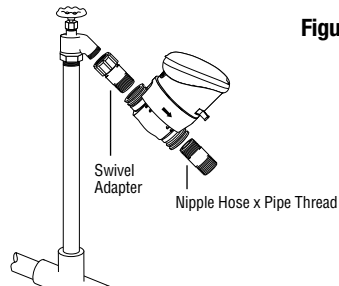
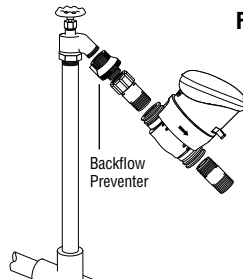

Figure 5a
Figure 5b
If vacuum breaker (antisiphon valve) is part of your faucet (new houses) do not install any other vacuum breaker (antisiphon valve) to the faucet. If vacuum breaker (antisiphon valve) is part of your city code and you have purchased a unit as part of your drip system, install the device with the female hose thread to the faucet and the male thread to the swivel adapter (see Figure 5a and 5b). For pipe thread outlet on the antisiphon, install the controller directly to the antisiphon.
3. Connect the controller to your faucet using the swivel adapter (Figure 5a) or to the vacuum breaker (antisiphon valve) with hose thread if installed (Figure 5b) DIG Model #10.